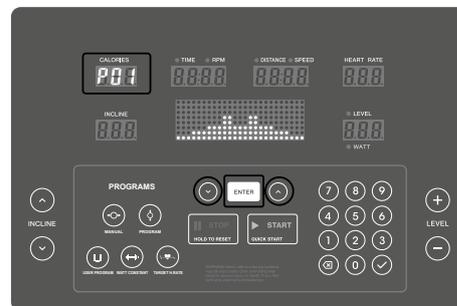

FIGURE 8
3. Select one of the programmes P01–P12 using the arrow keys (v/^) (Figure 8).